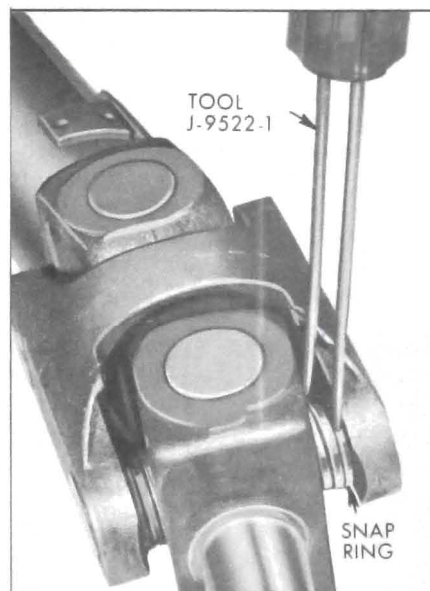

Figure 6-52—Removing Snap Rings from Propeller Shaft
1. Remove snap rings from the bearings. The snap rings are on the inside of the link yoke and can be removed with the assistance of Tool J-9522-1. See Figure 6-52.
1. Remove snap rings from the bearings. The snap rings are on the inside of the yoke and can be removed with the aid of Tool J-9522-1. See Figure 6-52.